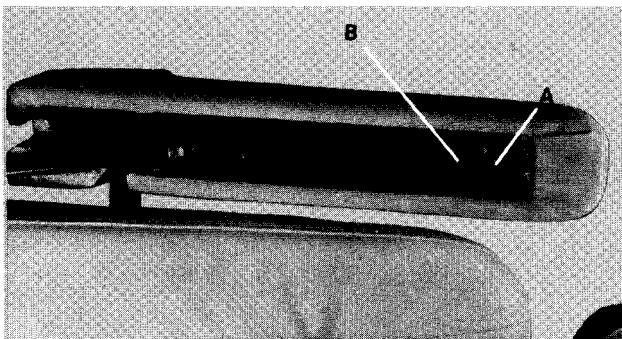

Fig. 9
- 1) To remove chair arm upholstery, position arm to allow convenient access to Phillips screws on bottom cover. Remove (2) # 6 Self Tapping Phillips screws from metal cover on bottom of arm, Item A, Fig. 9. Remove bottom cover.
- 2) Remove (2) # 10-24 x 1/2 Phillips Machine Screws, Item B, Fig. 9. Lift upholstery from chair arm.
- 1) To replace chair arm upholstery, position upholstery over metal arm. Align upholstery over two holes in metal arm. Install (2) # 10-24 x 1/2 Machine Screws. Item B, Fig. 9.
- 2) Position bottom cover under upholstery. Secure to metal arm with (2) # 6 Self Tapping Phillips Screws. Item A, Fig. 9.